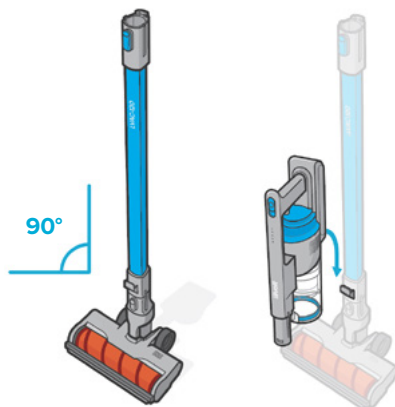

Figure 5.2
3. Place the roller brush on flat ground and attach the stick. Lock the stick into the standing position [Figure 5.2].
4. Take the vacuum body, remove any attachments, and store the vacuum body on top of the vacuum head by hanging it on the hook near the bottom of the stick [Figure 5.2].